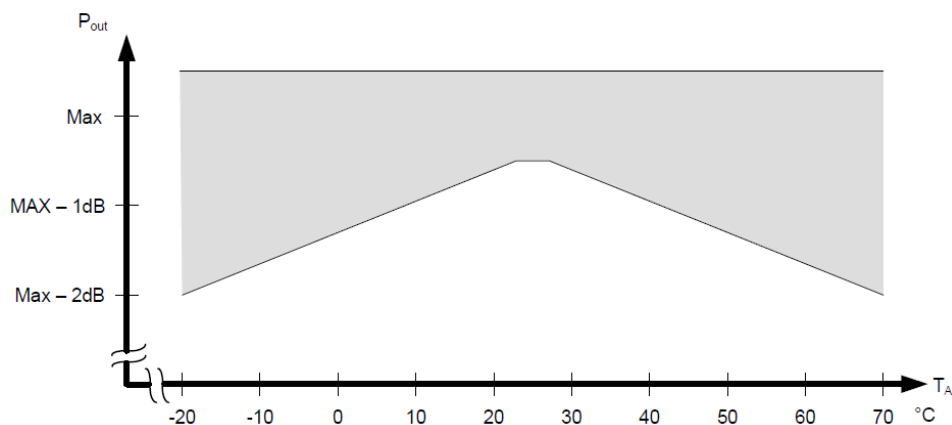

Figure 2: Pout vs ambient temperature
- 3) TX output power varies with temperature as shown in Figure 2